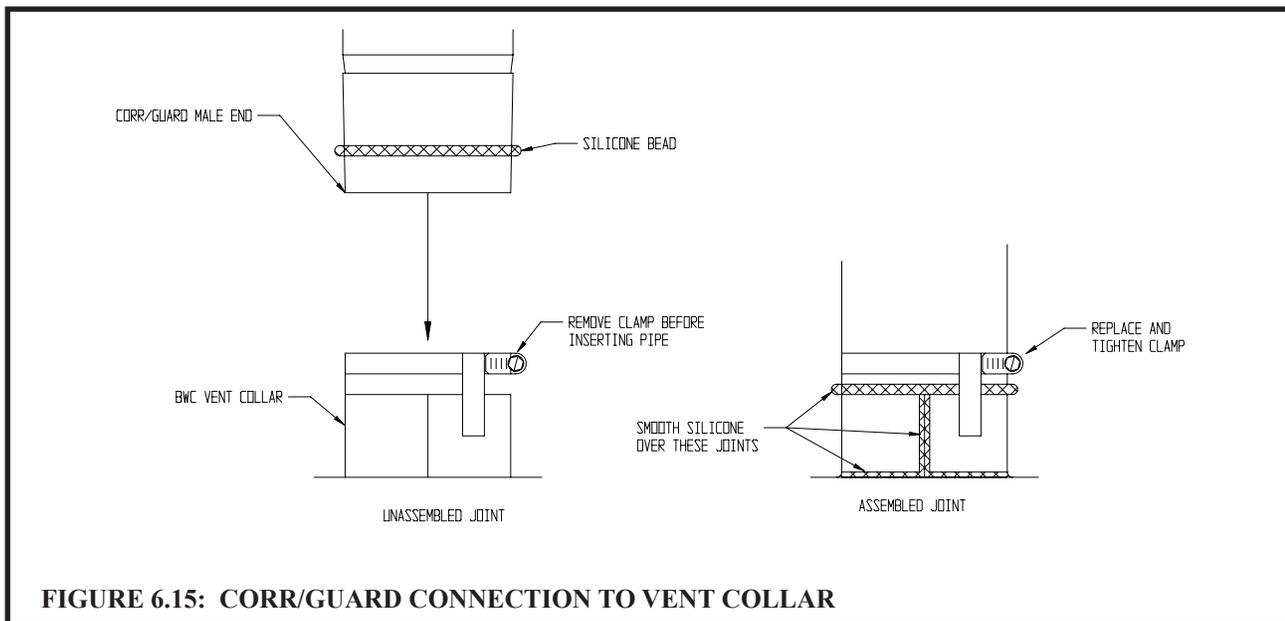

FIGURE 6.15: CORR/GUARD CONNECTION TO VENT COLLAR
- d) On the male end of the pipe, apply a 1/4" wide bead of silicone approximately 1/2" from the end of the pipe (Fig 6.15).